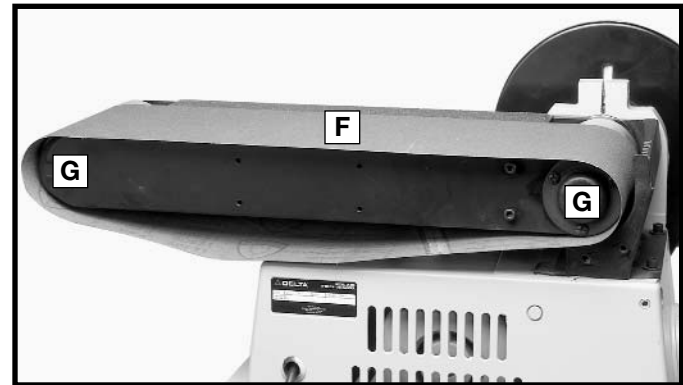

Fig. 40
5. Place a new 6" x 48" sanding belt (F) Fig. 40 over both sanding drums (G). Ensure that the belt will travel in the direction of the arrows printed on the inside of the belt.